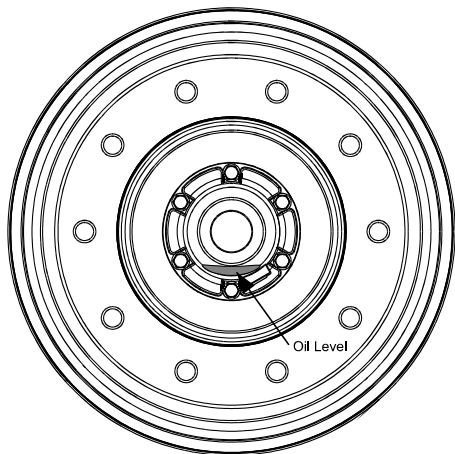

Figure 11 - Wheel Bearing Oil Level
26. Vehicle suspension should be at ride height when checking hub oil level. Check oil level through the hubcap window (**Figure 11**). If level is below the “add” level line, then fill with recommended oil until “full” level is achieved. Add oil slowly since the heavy weight oil will settle slowly in the hub.